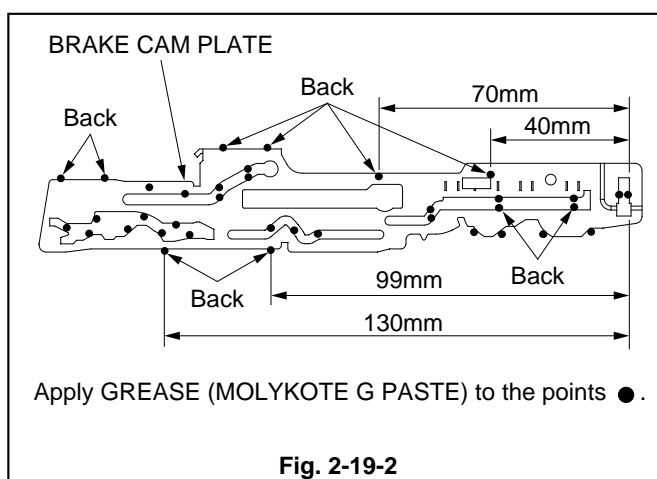

Fig. 2-19-2
1. Apply GREASE (MOLYKOTE G PASTE) [859D055O50] to the points on the BRAKE CAM PLATE specified in the Fig. 2-19-2.